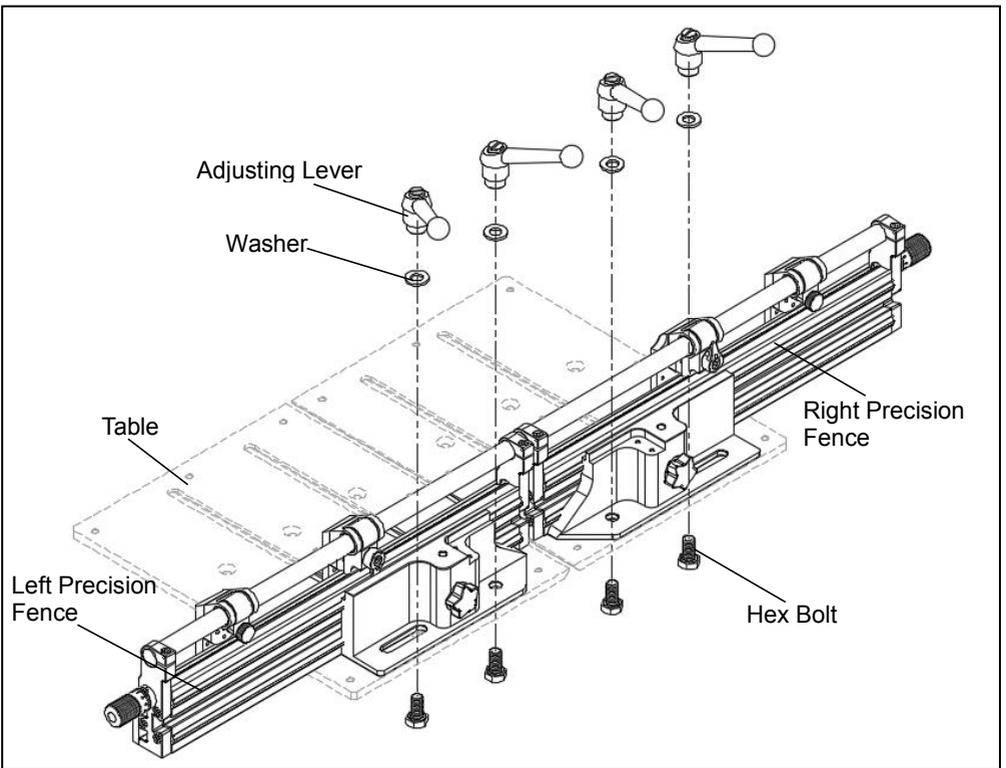

Fig. 1
- As shown in Fig. 1, mount the precision fence to the orange tables.